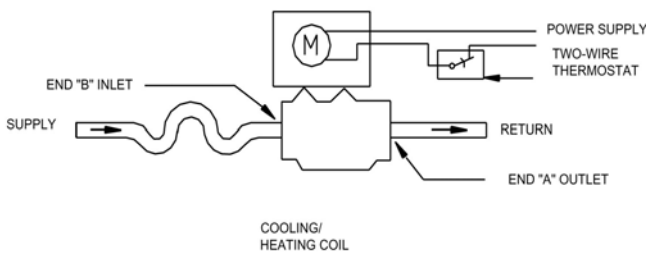

Fig. 1 Two-way valve
1. **Normal-closed** 2-way and diverting 3-way valve are installed as Figure 1, 2 and 3. For high building, pressure-reducing valve should be installed on branch pipe at ground floor.